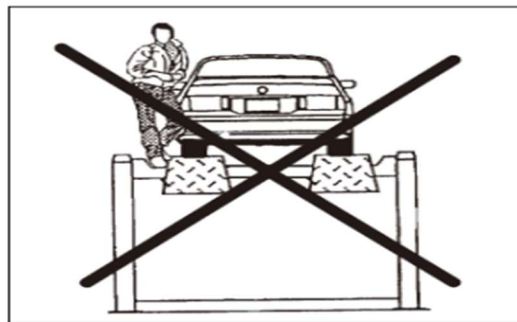

Figure 36 - Risks caused by unreasonable use
- It is not allowed to stand or sit on the lift platform during lifting operation. (Figure 36)